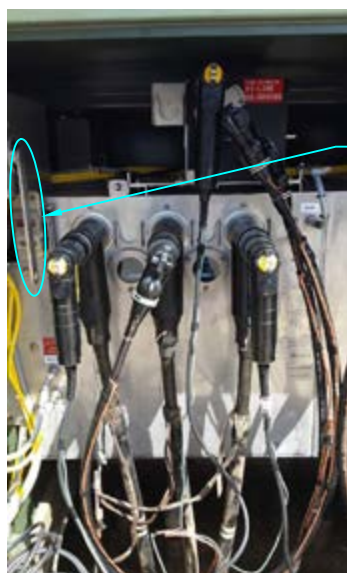

FIGURE 14A
Q. PRIOR TO ENERGIZING, CHECK TO MAKE SURE MOTOR OPERATOR ACTUATOR ARMS CAN FUNCTION UNOBSTRUCTED. P.T. ELBOWS SHALL BE PLACED ON THE CENTER PHASE POSITION OF THE SWITCH. FAULT INDICATORS SHALL BE POSITIONED AWAY FROM THE TRAVEL OF THE MOTOR OPERATOR ACTUATOR ARMS. SEE FIGURE 14A AND 14B.